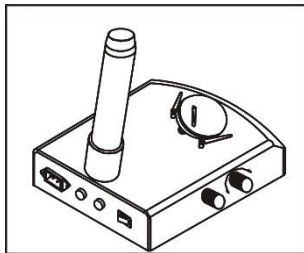

Fig.10
- 1) Press the stage on the sunken place then the other side will be lifted. (Fig.10)